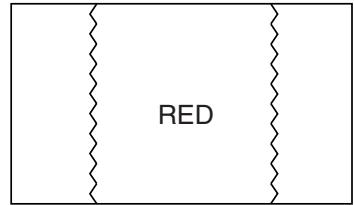

Fig. 8
6. Loosen the Ring Lock and adjust the Purity Magnets so that a red field is obtained at the center of the screen. Tighten Ring Lock. (See Fig. 8, 9.)